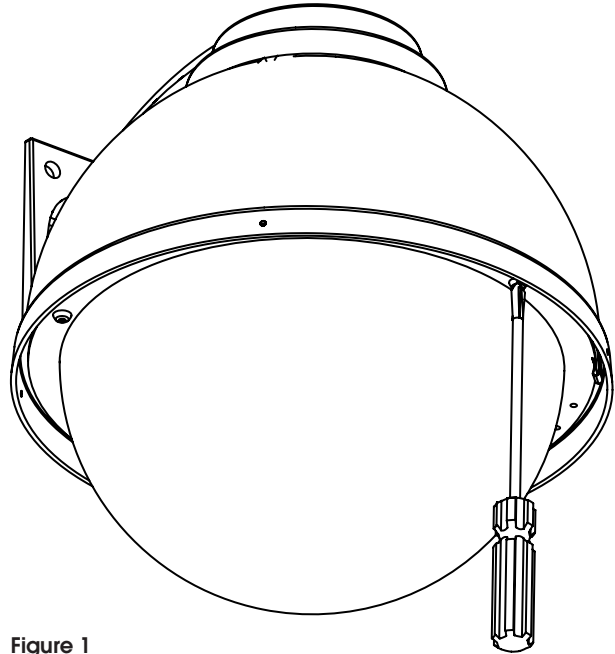

Figure 1
1. Open the housing by loosening the (3) security screws located on the housing ring next to the lower clear dome (Figure 1).